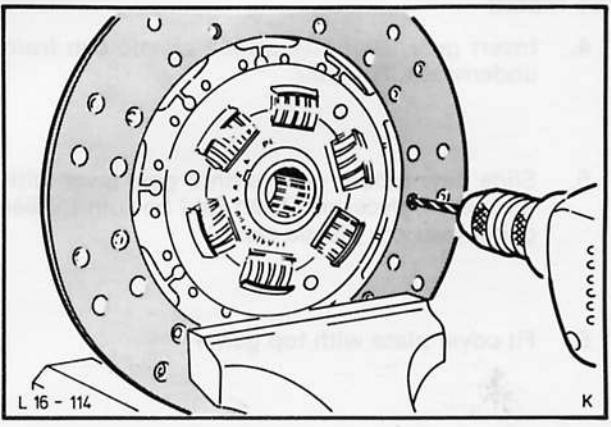

Fig. 134. Drill out rivets of clutch disc linings
1. Detach clutch disc lining. **Drill out rivet heads carefully so as not to damage clutch disc, Fig. 134.**